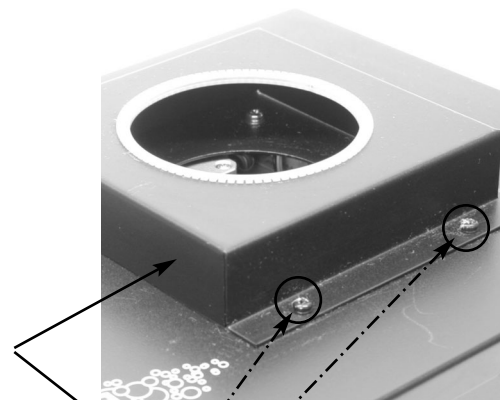

Figure 2
Begin assembly by removing the outer protective collar assembly. Remove the four (4) black, phillips screws from tube collar located on the top of water column base (see figures 2 and 3), to remove the collar. Remove the collar assembly.